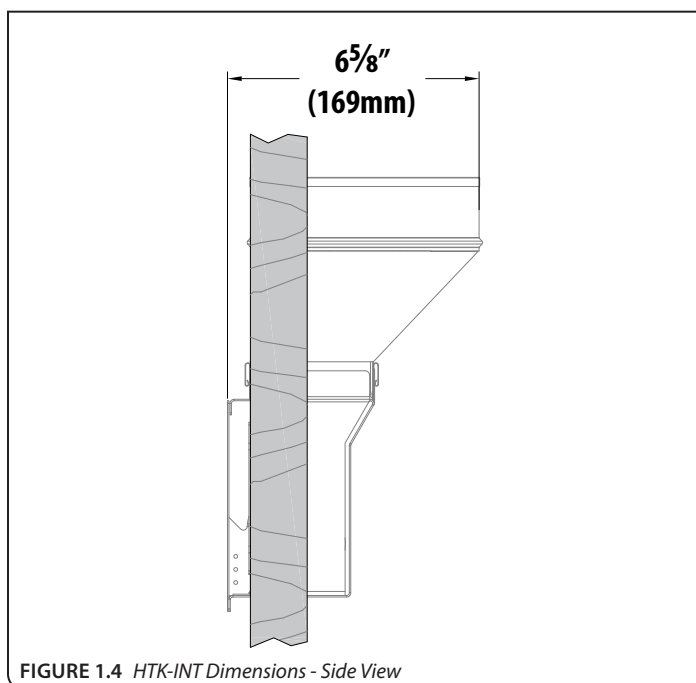

FIGURE 1.4 HTK-INT Dimensions - Side View
- FIGURE 1.4 shows the depth of the boot.